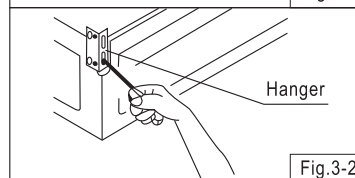

Fig.3-2
- Adjust the hangers and install the range hood to the wall, then tighten the nut of sleeve anchor. (Fig.3-2)